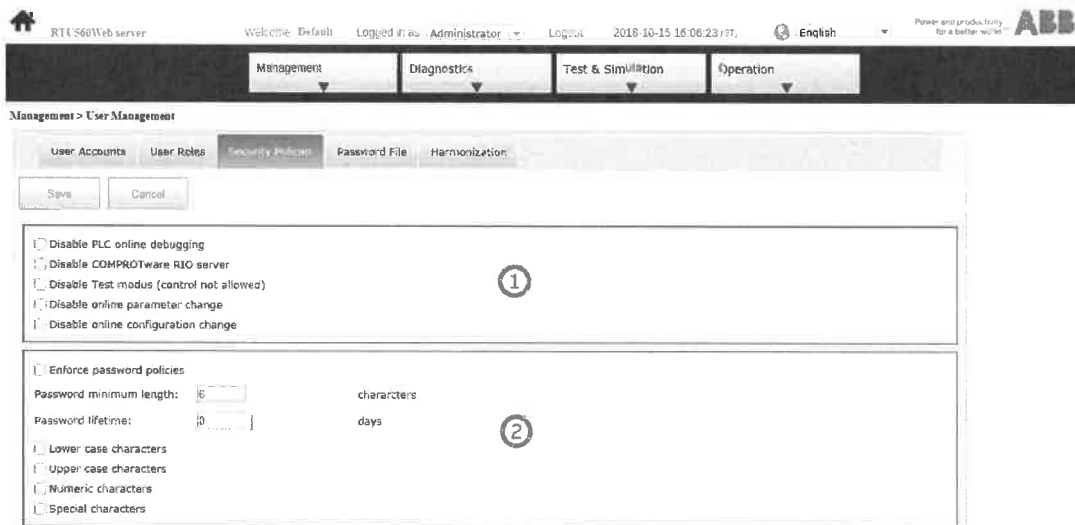

Figure 8: Menu tab security policies
See part (1) of the Web server screen shoot "Fig. 8: Menu tab security policies" for the password policies user interface.
See part (2) of the Web server screen shoot "Fig. 8: Menu tab security policies" for the password policies user interface.